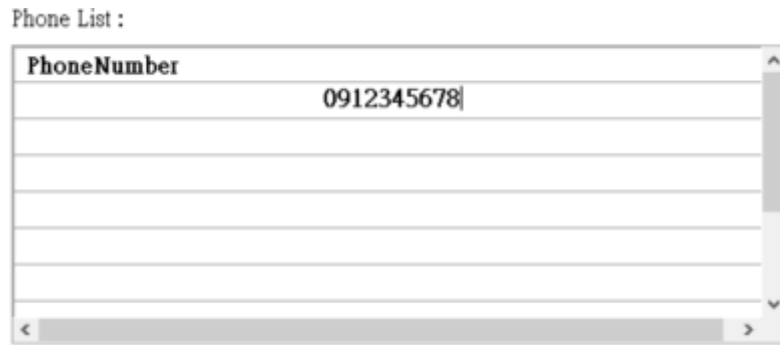

Figure 6.10.9
G. Refill the target phone number, as shown in Figure 6.10.9